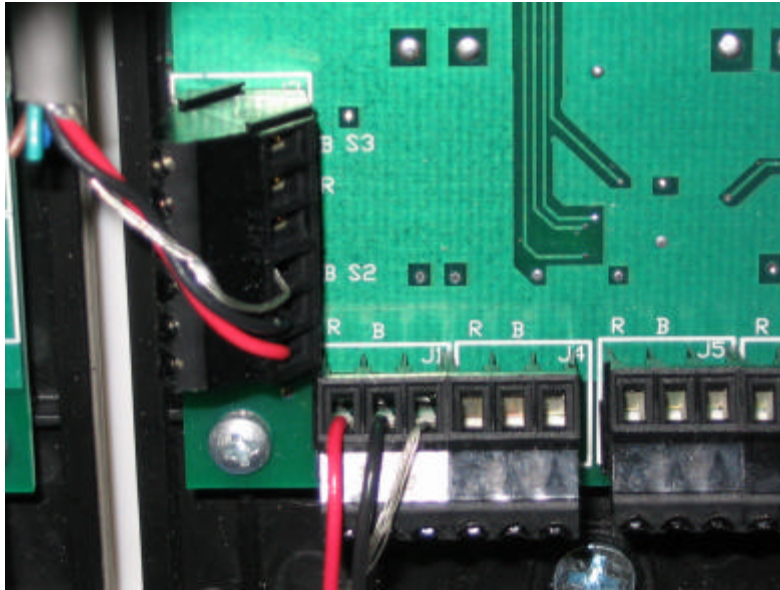

Figure 27
Connect the ribbon cable from the adjacent module to the J15 connector and if there is another module connect it to the J16 connector with another ribbon cable. Connect up to 8 transducers to the terminal blocks at the bottom of the board. Connect the transducers red wire to the (R) position of the terminal block and the black wire to the (B) position. Optionally the shielding of the transducer may be connected to the remaining position on the terminal block. The transducer connected to the S1 terminal block will correspond to the top LED indicator. ( See Figure 27.)